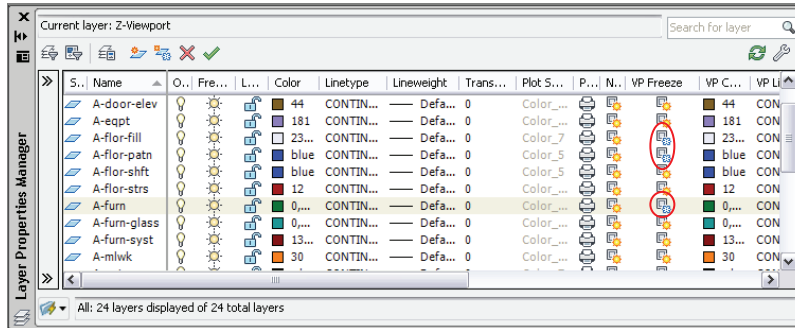

FIGURE 13.19 Freezing selected layers in the current viewport only
4. Expand the palette to the right by dragging its edge. Observe a set of properties in columns preceded with the letters VP (viewport). Click the icons in the VP Freeze column for layers A-furn, A-flor-fill, and A-flor-patn to freeze them in the current viewport (see Figure 13.19).